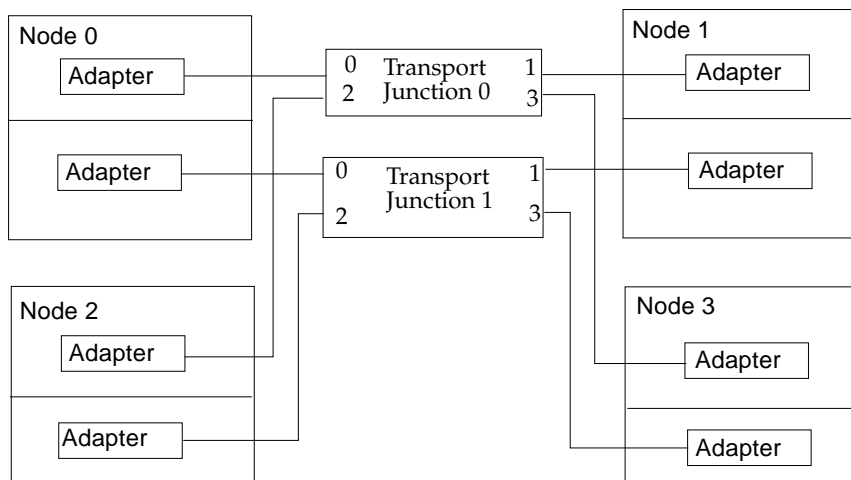

FIGURE 3-2 Typical Four-Node Cluster Interconnect
- A cluster with more than two nodes requires two cluster transport junctions. These transport junctions are Ethernet-based switches (customer-supplied). See FIGURE 3-2.